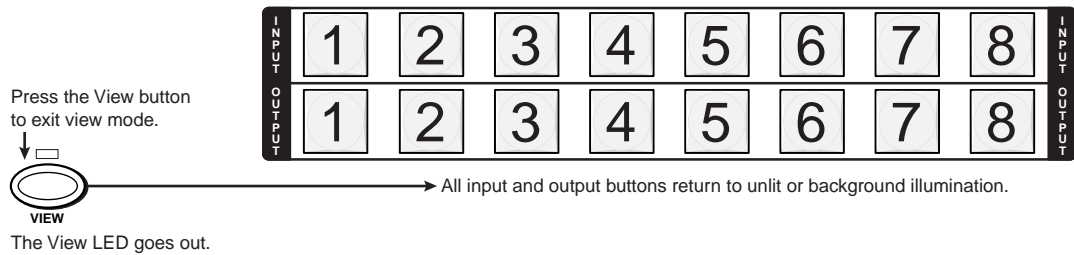

Figure 3-28 — Press the View button to exit view mode
5. Press and release the View button to exit view mode (figure 3-28).